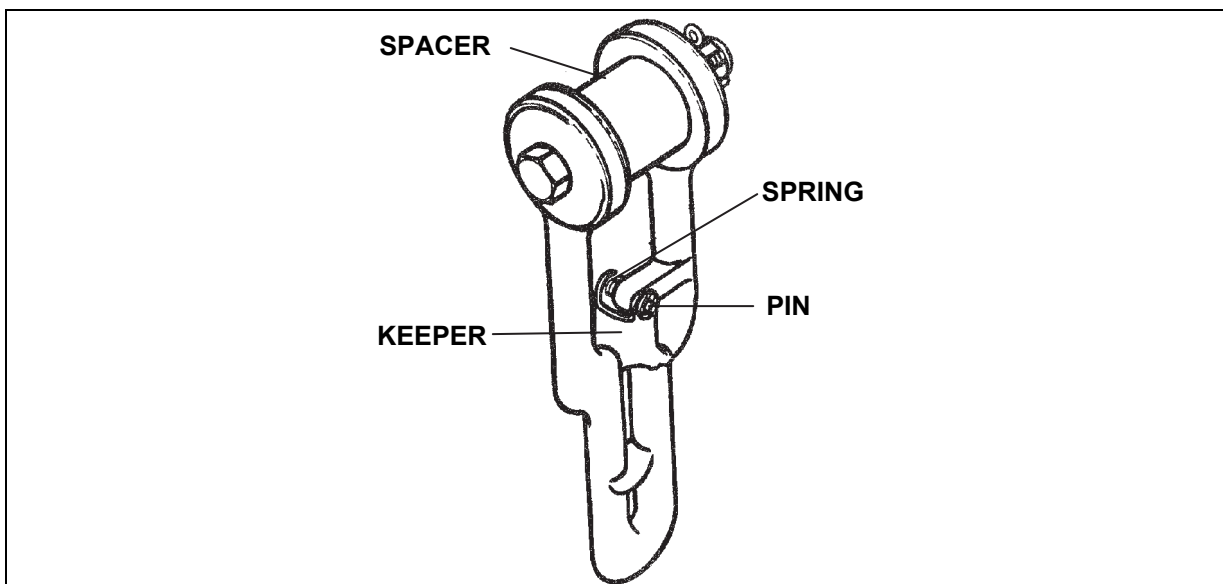

Figure 6-33. Grab Link
- **Grab Link.** Each sling leg has a grab link (figure 6-33) connected to the lower eye of the sling leg. The grab link attaches the sling leg to the chain section and permits varying the length of the chain. The grab link is attached to the lower eye of the sling leg with a bolt and spacer which are held in place by a castellated nut and cotter pin. The bottom of the grab link has an eye through which a coupling link is inserted to attach the chain leg. The length of the chain is varied by passing the chain through the lifting provision, back through the center opening of the grab link, and inserting the chain link that matches the desired leg length into the slot below the keeper. The keeper is not a load bearing component, but only serves to keep the chain in the grab link under a no-load condition. The chain leg is held in position by the locking action of the chain link in the slot under the grab link keeper.